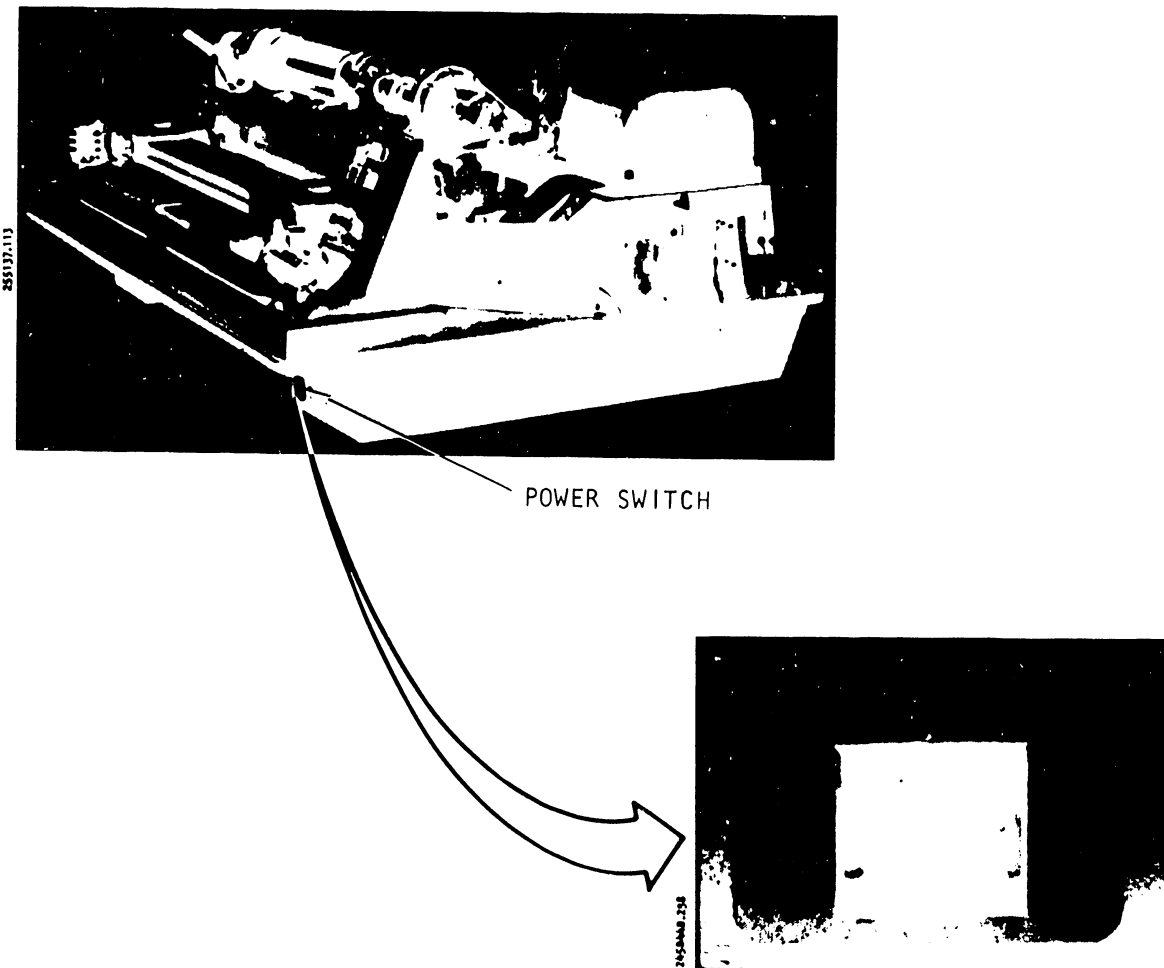

Figure 4-2. Power Switch Location
Power Switch Location	Paragraph 4.3, Figure 4-2
4.3 POWER SWITCH LOCATION (Figure 4-2)
In most troubleshooting procedures, the **POWER** switch must be set to **OFF**. Sometimes, the first troubleshooting step is to set the **POWER** switch to **OFF** and then to **ON**. Figure 4-2 shows the location of the **POWER** switch in all B-Series 300 LPM and 600 LPM Non-Acoustic Cabinet printers.